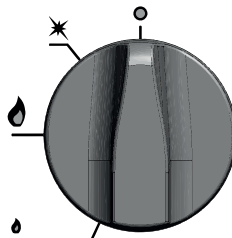

Figure 8. Setting a knob in the position, in which the gas supply to the burner is completely cut off.
- Make sure that all the knobs of the unused burners are in the „closed burner“ position (Fig.8)
- When the burner is not longer in operation, close the gas supply by turning the pilot knob clockwise to the „closed” position (Fig. 8). **Attention! When using LPG, before switching off the burner with the knob, the cylinder valve must be closed!**